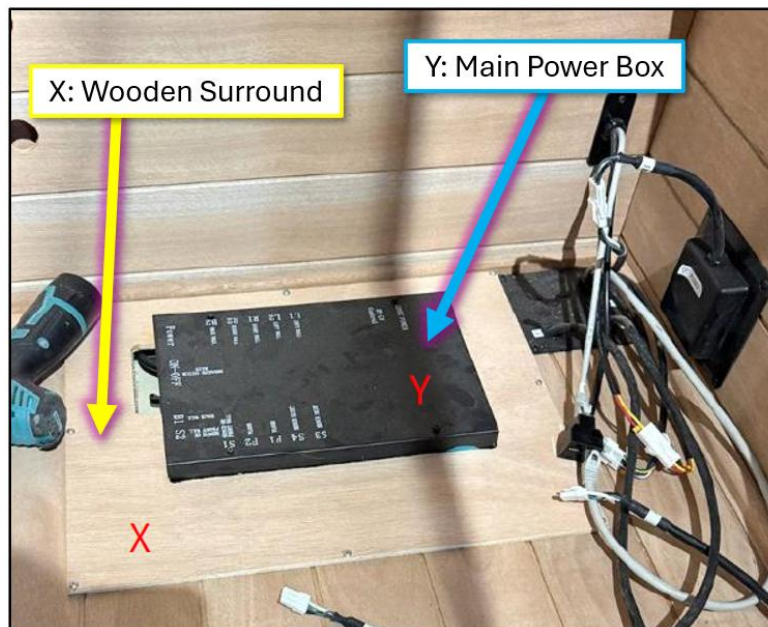

Figure 8. Illustrative image (may vary by model) of the main power box (Y) and the wooden surround (X) on the floor of the sauna.
Step 8. After replacing all circuit boards and replacing the cover on the distribution boxes – locate the main power box (Figure 8).
- 8.2. Remove the screws on cover of the power box (Y, Figure 8). Remove the cover of the power box and place the screws and the cover to the side, out of the main work area.
- 8.3. Remove the wood surround from the power box (X, Figure 8). Place the wood surround to the side, out of the main work area.